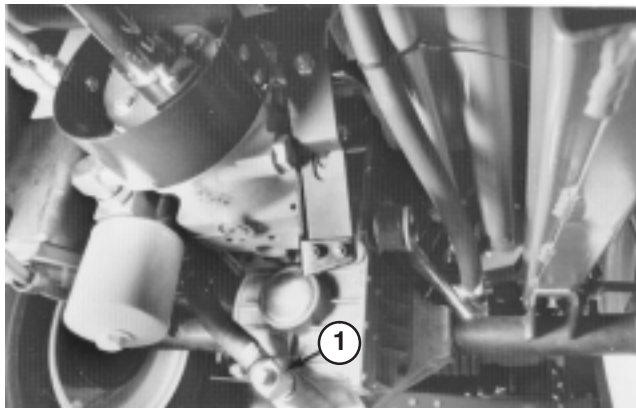
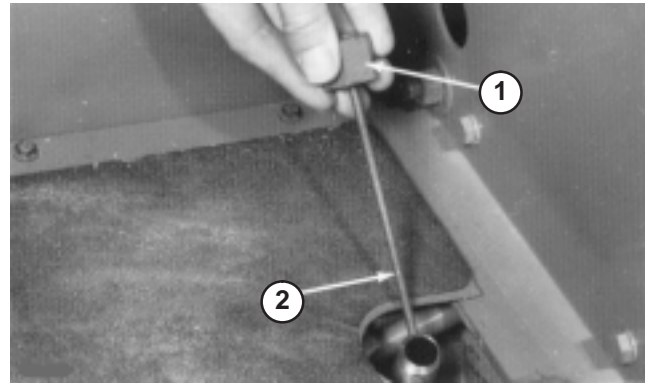

Figure 48
Figure 49
4. Remove drain plug from fitting between axle housing and oil filter and allow fluid to flow into drain pan (Fig. 48).
6. Install drain plug in fitting between axle housing and filter (Fig. 48).
7. Remove dipstick from axle filler tube (Fig. 49) and fill axle to proper level with correct type of hydraulic fluid; refer to table above.
9. Leave machine set for two additional minutes, then remove dipstick and check fluid level in axle (Fig. 49). If level is low, add fluid until level matches groove in dipstick (Fig. 49). If level is too high, remove drain plug (Fig. 48) and drain fluid until level matches groove in dipstick.